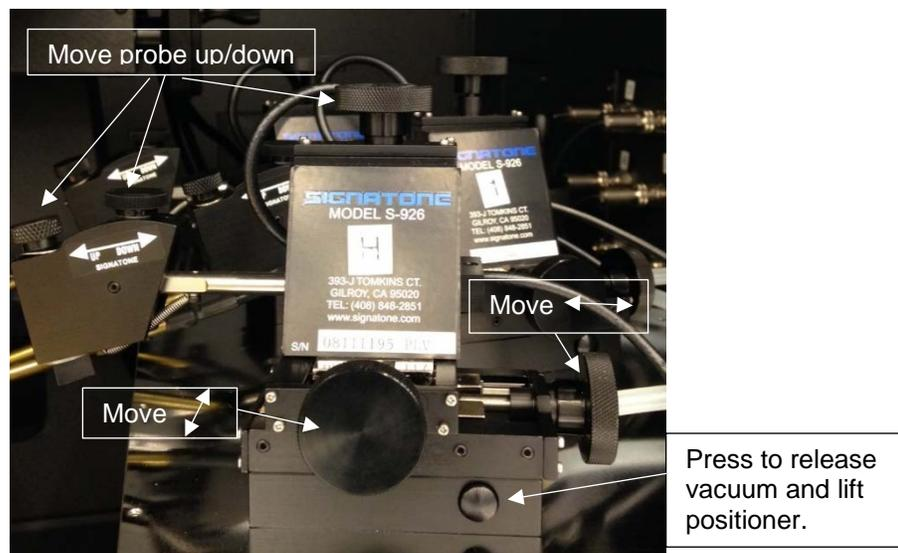

Figure 5: Position control of the probes
7. Locate the probes on your electrical pads using the knobs in Figure 5. The positioner can be lift up by pressing the button in Figure 5 for a fast movement.